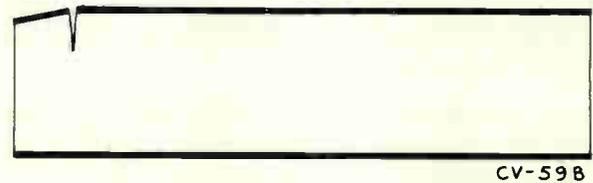
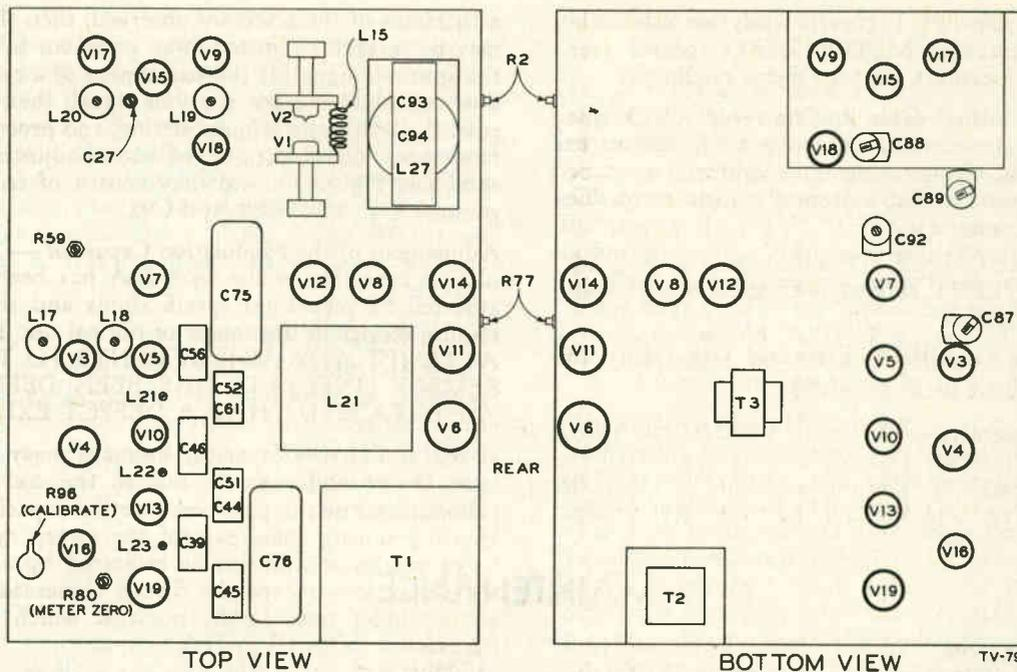
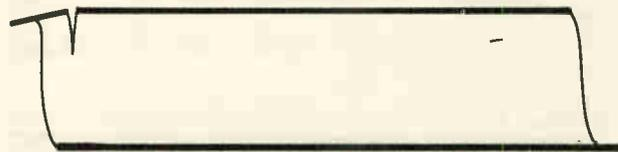

Figure 4—Response Curve with Blanking On
Figure 13—Tube and Adjustment Locations
Figure 14—Improperly Phased Response
Throw the BLANKING switch to the "ON" position. A pattern similar to that shown in Figure 4 should be visible on the oscilloscope screen. If this pattern is obtained, the Video Sweep Generator is ready for testing a wide-band video amplifier or other device as covered in the section on Applications.
5. A horizontal line should appear on the cathode-ray tube. This line may or may not contain the 10-mc marker and the zero-frequency beat, depending upon the degree of misalignment. If the zero-frequency beat does not appear on the line, then adjust the core of L17 (see Figure 13 for location) until the beat appears at the left-hand side of the trace.
9. Adjust the core in L18 (see Figure 13 for location) until the trace is of maximum amplitude.
5. Adjust L17 (see Figure 13 for location) until the 5.5-mc marker pip rests at the left-hand side of the
trace. Adjust L18 (see Figure 13 for location) for a trace of maximum height.
Phasing the Blanking Circuit — When the blanking circuit is correctly phased, the baseline of the oscilloscope trace will fall exactly under the upper portion of the pattern as shown in Figure 4. This trace is obtained on the oscilloscope as described under the heading, "Operation." An improperly phased blanking circuit is indicated when the reference baseline is displaced, as shown in Figure 14. To phase the blanking circuit, adjust R59 (see Figure 13 for location) for the pattern shown in Figure 4.
3. Turn the OUTPUT control fully counterclockwise, and adjust the METER ZERO control (see Figure 13 for location) for zero meter reading.
6. Adjust the CALIBRATE control (see Figure 13 for location) for a panel-meter indication of 0.5.
3. Tune the frequency meter to 22 mc and adjust L19 (see Figure 13 for location) for zero beat as noted on the frequency meter.
5. Tune the frequency meter to 9 mc, and set the TUNING control on the WA-21A to this same frequency. Adjust C27 (see Figure 13 for location) for zero beat (in the frequency-meter output).
6. Tune the frequency meter, and the TUNING control on the WA-21A, to one mc. Adjust L20 (see Figure 13 for location) for zero beat (in the frequency-meter output).
a fuzziness of the trace are observed, then these traps may be carefully adjusted in an endeavor to eliminate the spurious signal. If the adjustment of a certain trap does not eliminate the spurious signal, then carefully reset the trap to its original setting, and proceed to the next one. The locations of these adjustments are shown in Figure 13, and they consist of trimmer capacitors C87, C88, C89, and C92.
Aligning the Video Amplifier — If, when the instrument is set up as described in the section on Operation, with the BLANKING switch set to "ON," the top line of the rectangular trace obtained is not straight and parallel to the bottom line (see Figure 4 for correct trace shape) then the video amplifier may need realignment. This is accomplished by adjusting L21, L22, and L23 (see Figure 13 for location) for the required flat-top response. This response should be obtained when the core studs are in their approximate mid-position.